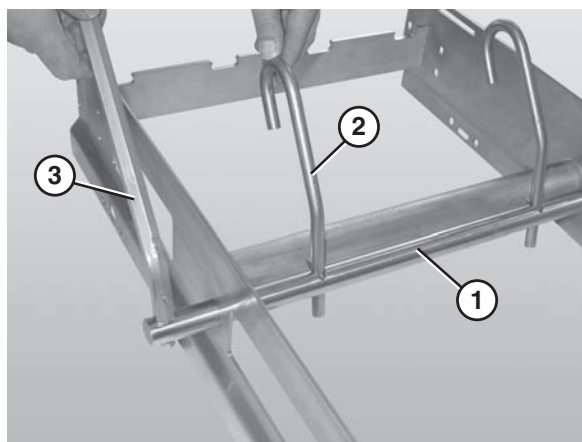

Figure 28
1. Slide the belt lift pivot bar (Figure 28, item 1) through the designated holes in the frame. The pins on the belt lift pivot bar should be located inside the frame side rails.
2. Attach the lifter bars (Figure 28, item 2) to the belt lift pivot bar (Figure 28, item 1). Make sure the hooked ends of the lifter bars are facing down when resting against the frame.
3. Attach the lifter handle (Figure 28, item 3) to the belt lift pivot rod.